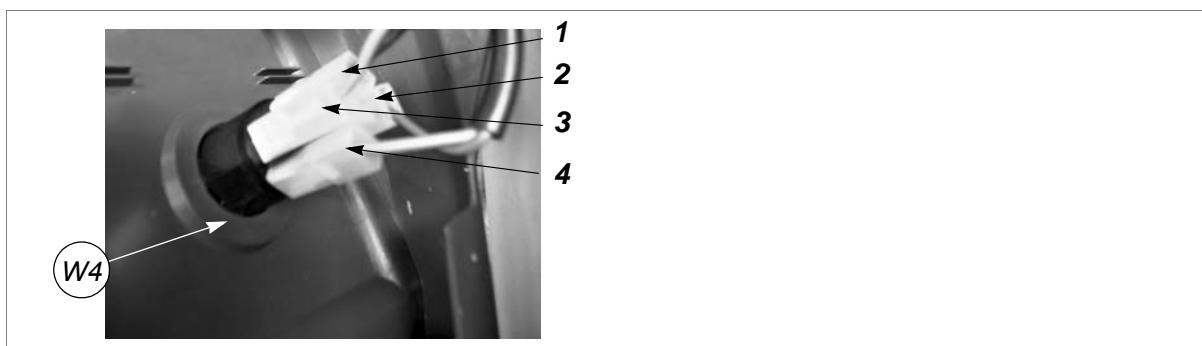

Fig. 42
- 10) Remove the connectors (1, 2, 3, 4), paying attention to their positions (fig. 42, page 29).